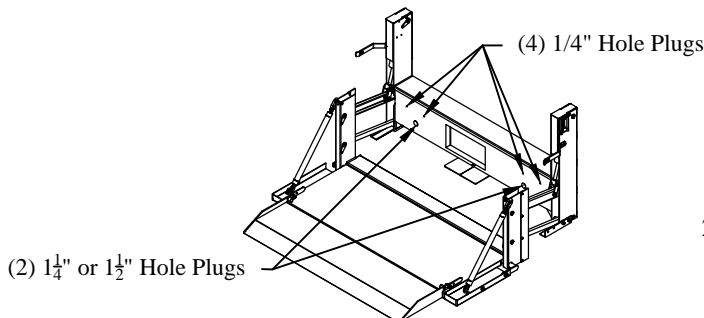

Figure 4: Plugged Mounting Holes
4. **Remove** two (2) $1\frac{1}{4}$ " or $1\frac{1}{2}$ " hole plugs and four (4) $\frac{1}{4}$ " hole plugs from access holes (Figure 4).
- 1. Pull** one 3-prong tail light plugs and one 2-prong tail light plug through each 1 $\frac{1}{4}$ " or 1 $\frac{1}{2}$ " front access hole (Figure 4).
- Note: Step 2 may be skipped if the front access holes are 1 $\frac{1}{2}$ " holes (Figure 4).
- Secure** the 1 $\frac{1}{4}$ " grommets or 1 $\frac{1}{2}$ " bushings inside the 1 $\frac{1}{4}$ " or 1 $\frac{1}{2}$ " front access holes (Figure 4).